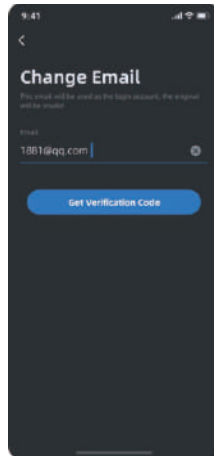

Figure 6
6) Figure 6: When modifying an email/phone number, enter the new email/phone number and click **"Get Verification Code"** to enter the verification code input page.